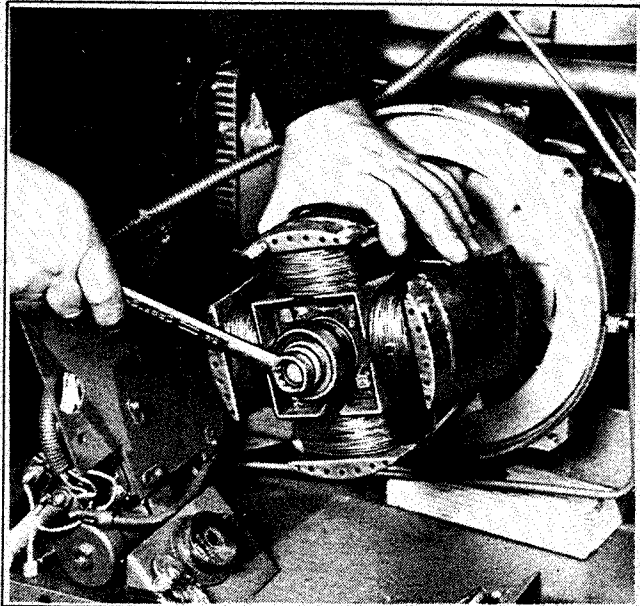

Figure 8-10. Loosening Thru-Bolt
18. Loosen rotor thru-bolt by rotating bolt counterclockwise with a 3/4 in. socket. Figure 8-10.